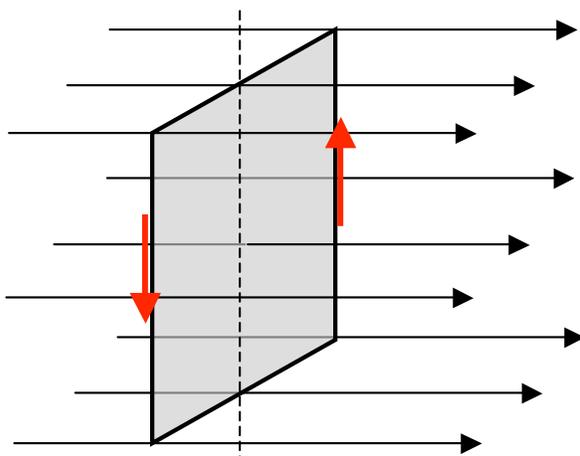

Figure 11.9b
2. In Figure 11.9b, your task is the same -- but the loop's initial position is now rotated  $90^\circ$  from its initial position in 11.9a, so the loop is perpendicular to the magnetic field directional arrows.